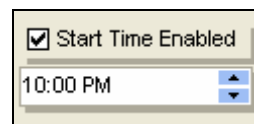

Figure 17.2.22
3. Check the box to enable. Highlight the **START TIME** and use the **UP** and **DOWN** arrows to adjust the time (Figure 17.2.22).